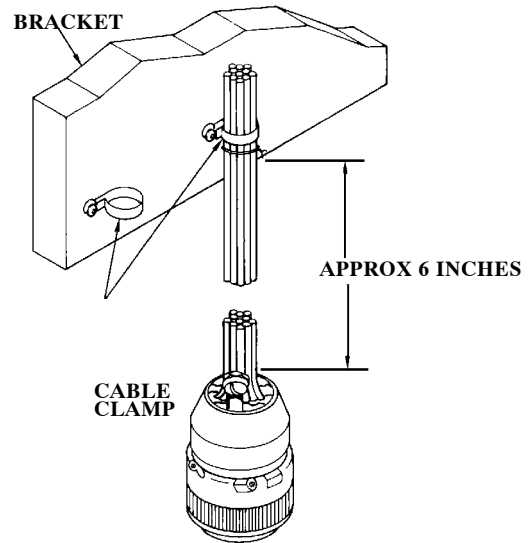

Figure 12. Curing Sealed Connector
g. Suspend connector by cable clamp attached to bracket so sealant stays level. Air cure for 1-1/2 hours at 75°F (24°C) without moving (Figure 12).